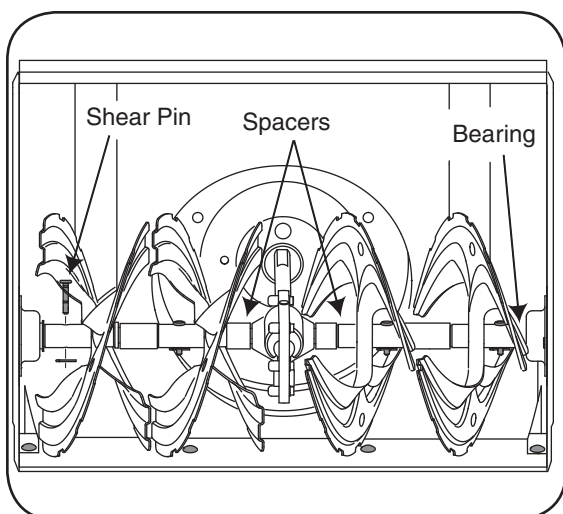

Figure 15
At least once a season, remove the shear pins on auger shaft. Spray lubricant inside shaft, around the spacers. Also lubricate the flange bearings found at either end of the shaft. See Figure 15.
- The augers are secured to the spiral shaft with two shear pins and cotter pins. If the auger should strike a foreign object or ice jam, the snow thrower is designed so that the pins may shear. Refer to Figure 15.